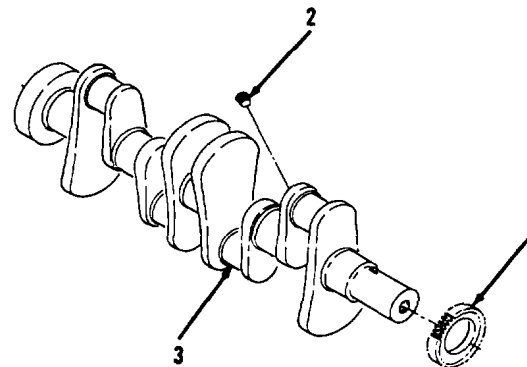
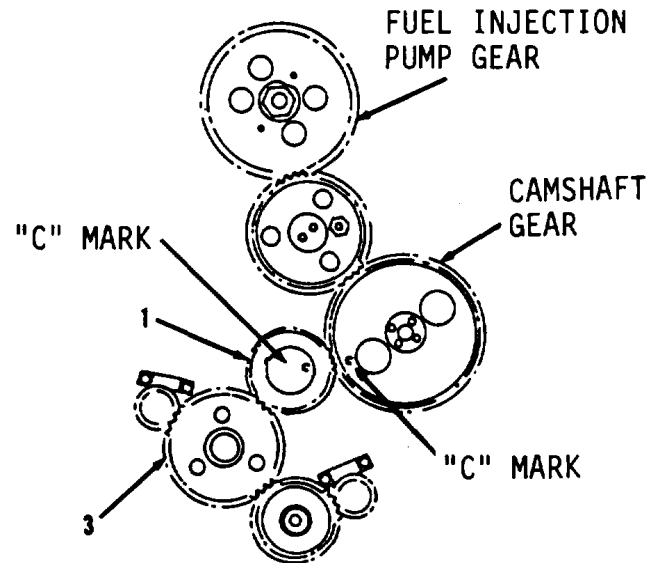

Figure 13-12.
Figure 13-13.
3. Install hoist and sling on three bolts in crankshaft (3).
4. Remove crankshaft (3).
5. Remove hoist and sling from crankshaft (3).
6. Using puller assembly, ratchet box wrench, step plate and bearing puller attachment, remove crankshaft gear (1) from crankshaft (3, Figure 13-12).
7. Remove four plugs (2).
1. Replace four plugs (2, Figure 13-12) on crankshaft (3).
2. Heat crankshaft gear (1) to a maximum temperature of 600 degrees F.
3. Install crankshaft gear (1) on end of crankshaft (3) with C mark facing out and away from front of crankshaft (3, Figure 13-13).
4. Turn camshaft gear until C mark on camshaft is positioned toward C mark on crankshaft (3) when installed.